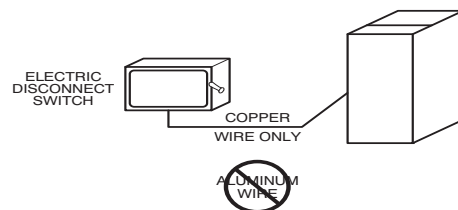

Fig. 33 – Field-Supplied External Electrical Box on Furnace Casing
Do not connect aluminum wire between disconnect switch and furnace. Use only copper wire. See Fig. 33.
1. Drill two (2) 1/8-in. (3 mm) pilot holes through the dimples in the furnace casing near the 7/8-in. knock-out on the side of the casing. Do not remove the knock-out in the side of the casing.
9. Connect field power and neutral leads to furnace power leads inside the external electrical box as shown in Fig. 33.